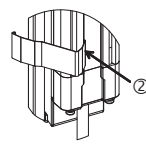

Fig. 2
- (2) Hook the Bracket in the groove on the back of the Safety Light Curtain. (Fig. 2 ②)